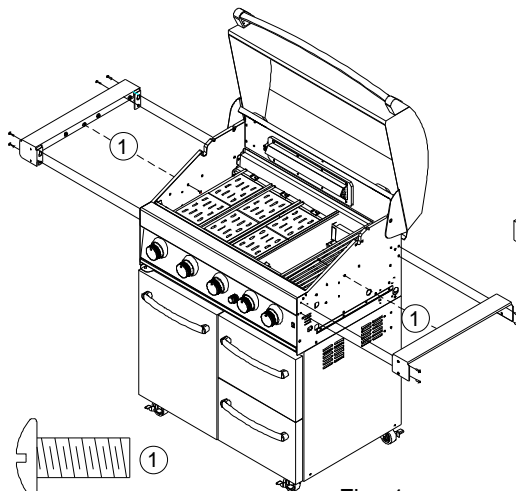

Fig. 1
- Install Side Shelf Brackets using 8 Phillips Head Screws 1/4"x3/8" and 2 Phillips Head Screws 3/16"x1/2" and tighten securely. (See Fig. 1)